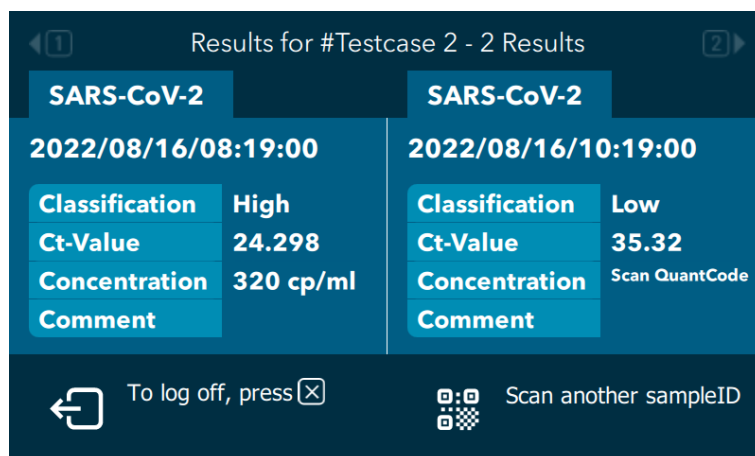

Figure 3: Example of a result screen shown on the Endress+Hauser BioSense Device if results are recalled from the Device storage.
- The Endress+Hauser BioSense Device displays the corresponding results (see *Figure 3*).